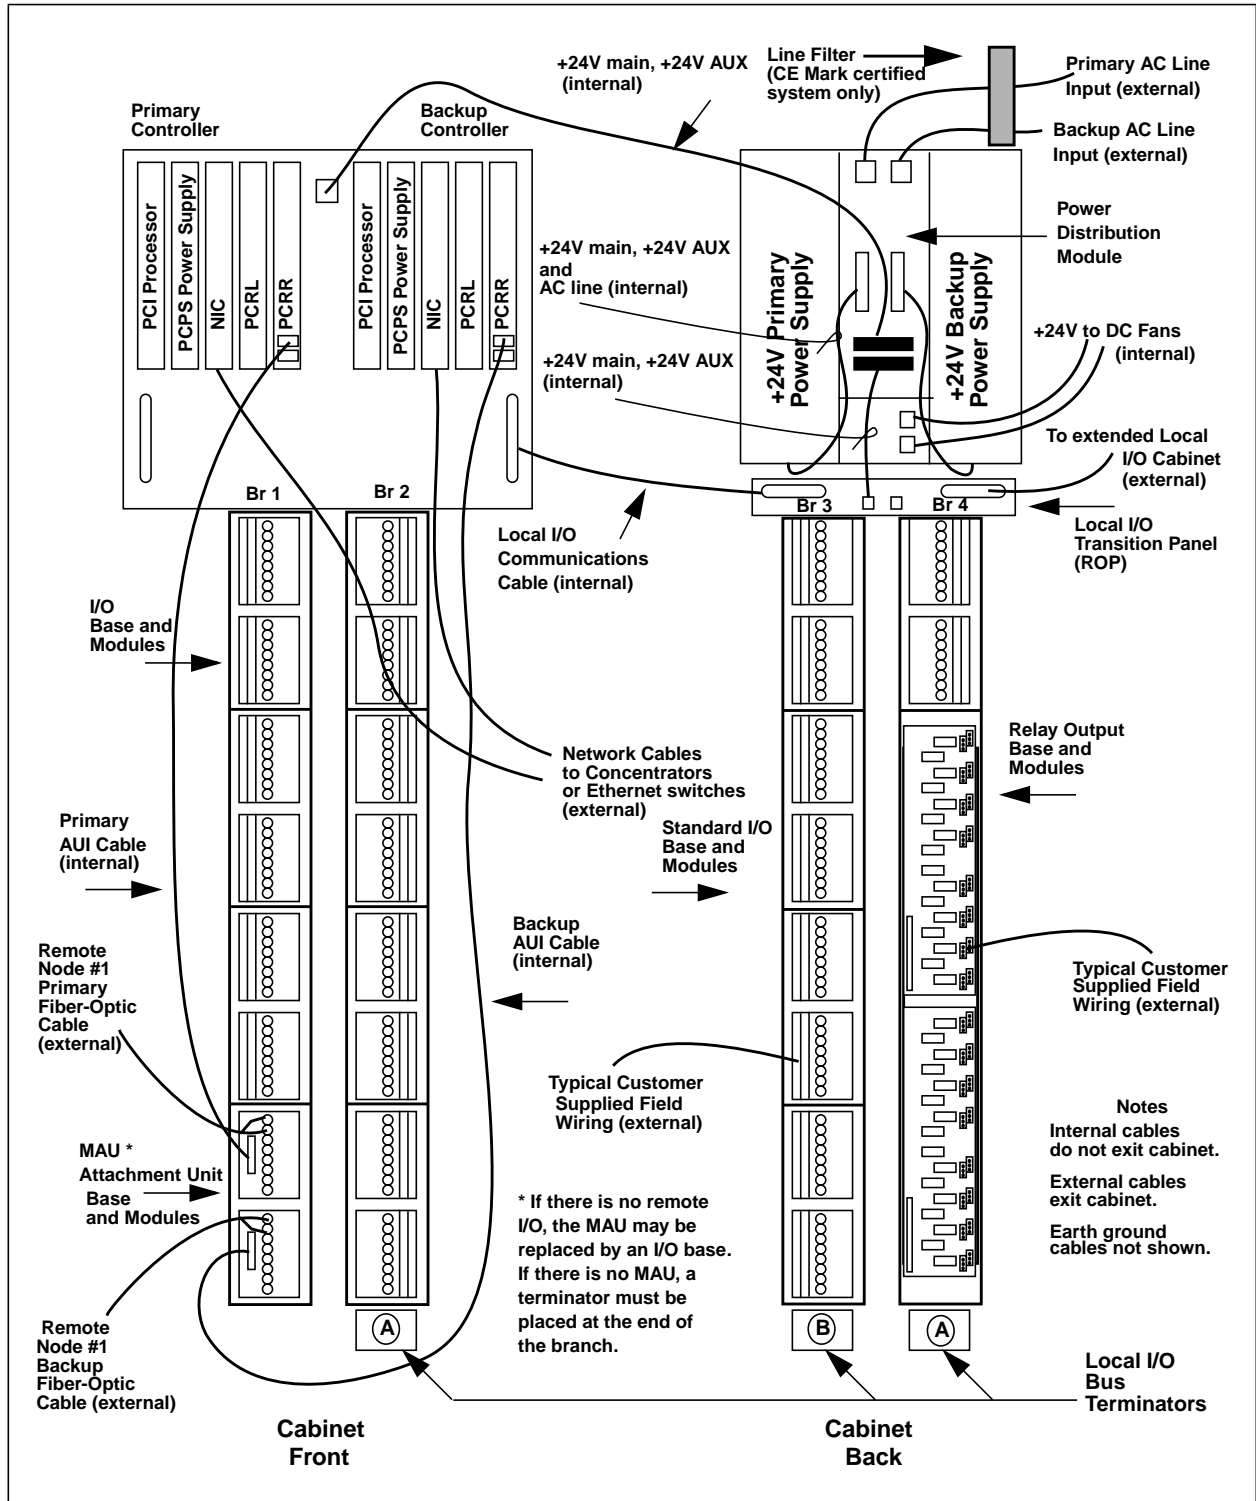

Figure 27-1. Controller Cabinet Components and Cabling (local and remote I/O)
The Ovation Remote I/O Controller cabinet (see Figure 27-1) contains the following:
- I/O Branch Terminator Board A or B (1B30023) - Connects to the A or B-side of a standard I/O base at the end of a branch having no Attachment Unit Module to terminate the local I/O bus (refer to Figure 27-1).